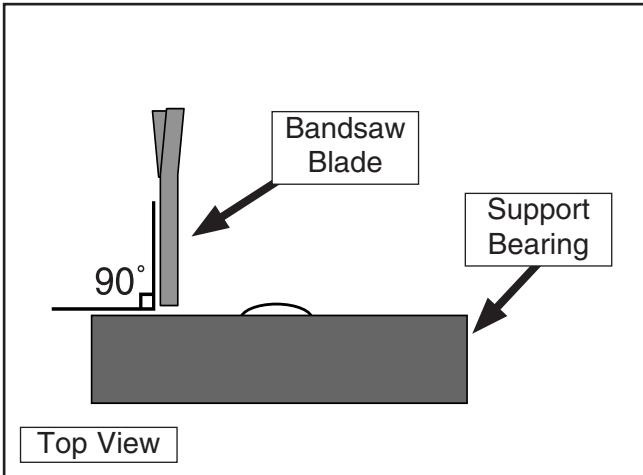

Figure 28. Blade should be perpendicular (90°) to the face of the support bearing.
4. Loosen the guide block assembly cap screw and rotate the blade guide assembly side-to-side, until the blade is perpendicular with the face of the support bearing as illustrated in **Figure 28**.
- Check to make sure the guide block assembly is perpendicular with the face of the support bearing as illustrated in **Figure 28**.